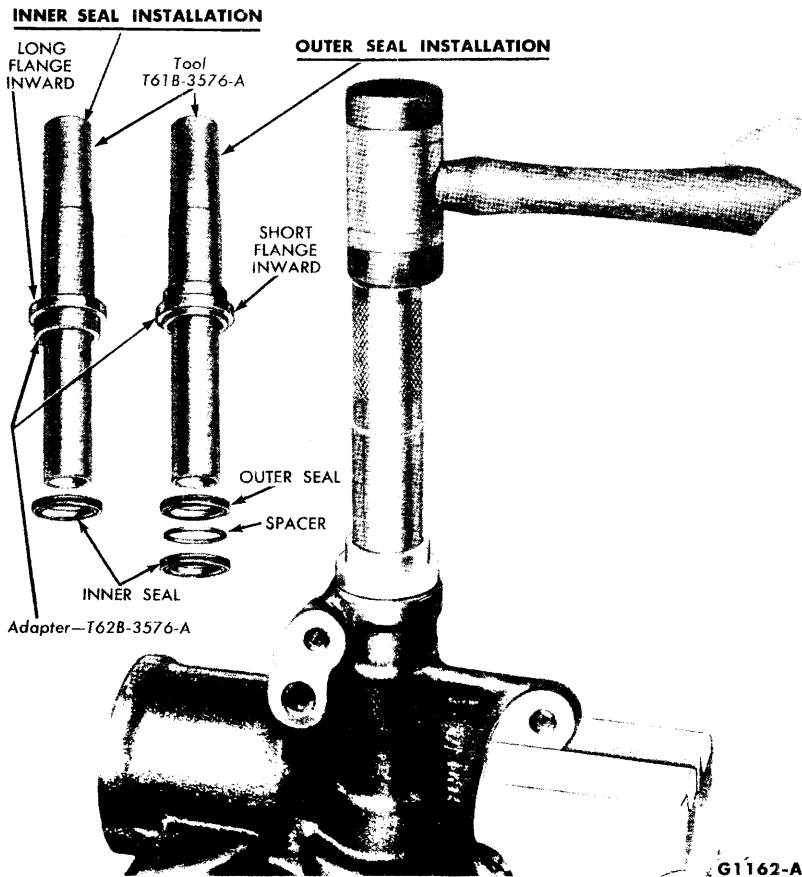

FIG. 26—Installing Sector Shaft Oil Seals G1162-A
T62B-3576-A as shown in Fig. 26. The long flange of the adapter should press against the seal.
10. Install the metal spacer against the inner seal, then position the sector shaft outer seal with the sealing lip facing inward against the spacer. Seat the seal with the tool and adapter (Fig. 26). The short flange of the adapter should press against the outer seal.